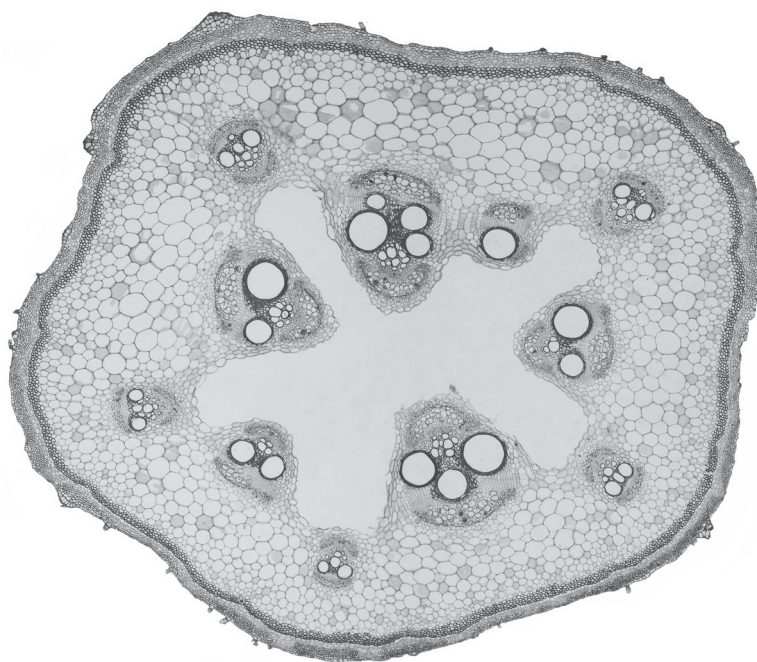
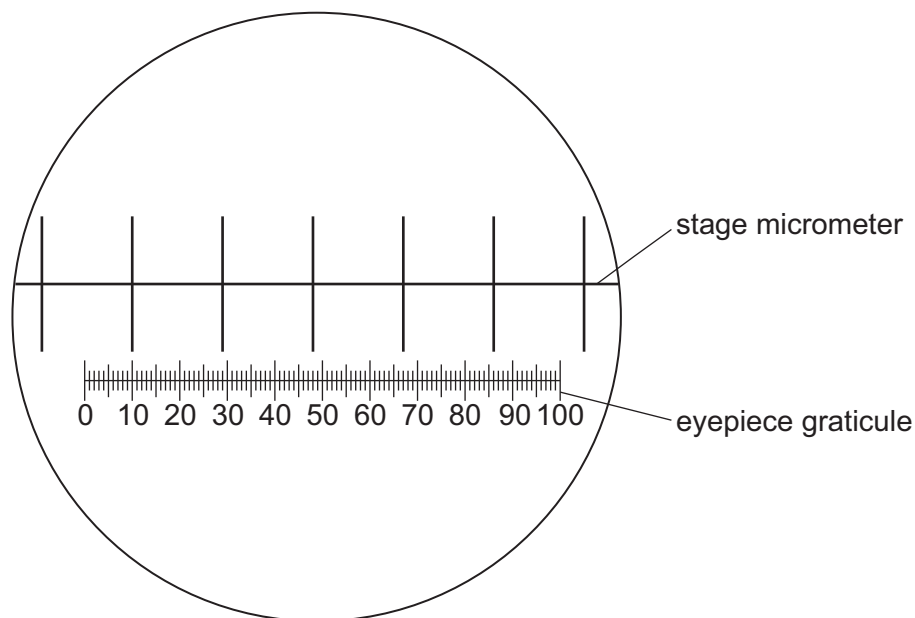
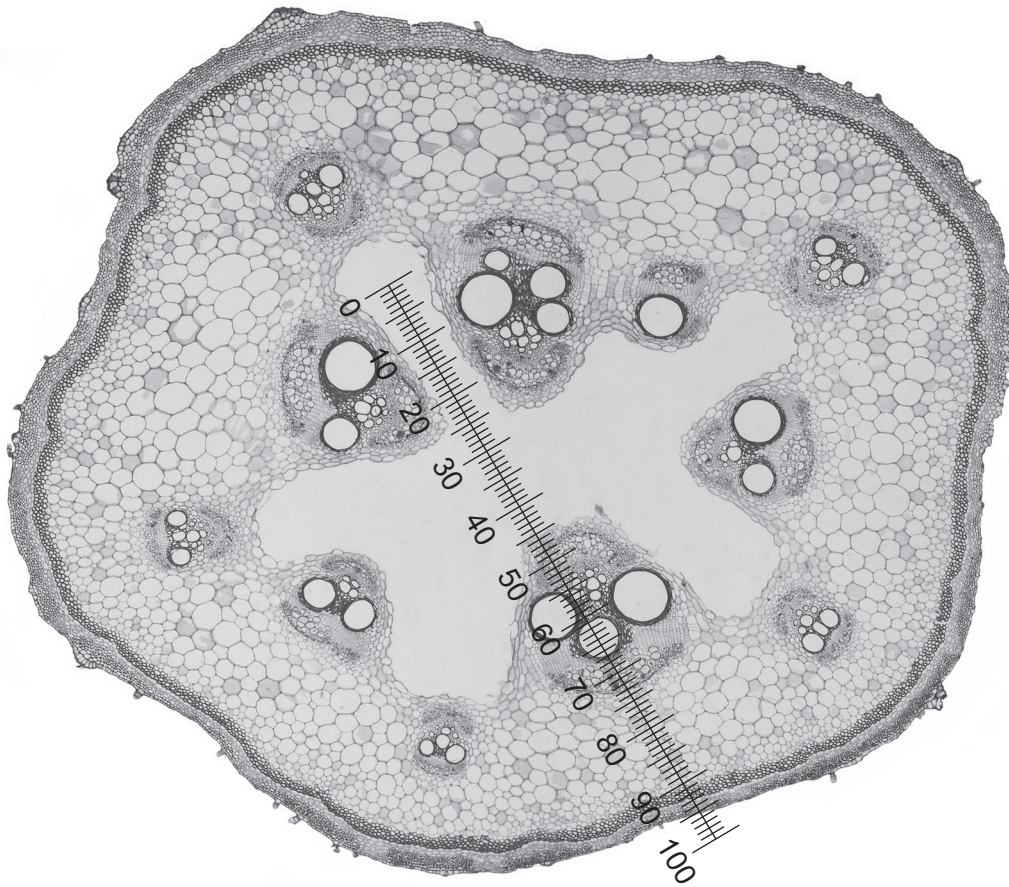

Fig. 2.2
Fig. 2.3
Fig. 2.4
- (b) Fig. 2.2 is a photomicrograph of a stained transverse section of a stem from a different plant to **M1**.
Identify **three** observable differences, other than colour, between the stem section on **M1** and the stem section in Fig. 2.2.
- (c) Fig. 2.3 shows a photomicrograph of a stage micrometer scale that is being used to calibrate an eyepiece graticule.
The length of one division on the stage micrometer in Fig. 2.3 is 1.0 mm.
- (i) Calculate the actual length of one eyepiece graticule unit shown in Fig. 2.3.
- (ii) Fig. 2.4 is the same photomicrograph as that shown in Fig. 2.2. This was taken with the same microscope and the same lenses used to take the photomicrograph in Fig. 2.3.
Use the calibration of the eyepiece graticule unit from **(c)(i)** to calculate the actual length of the vascular bundle in Fig. 2.4.